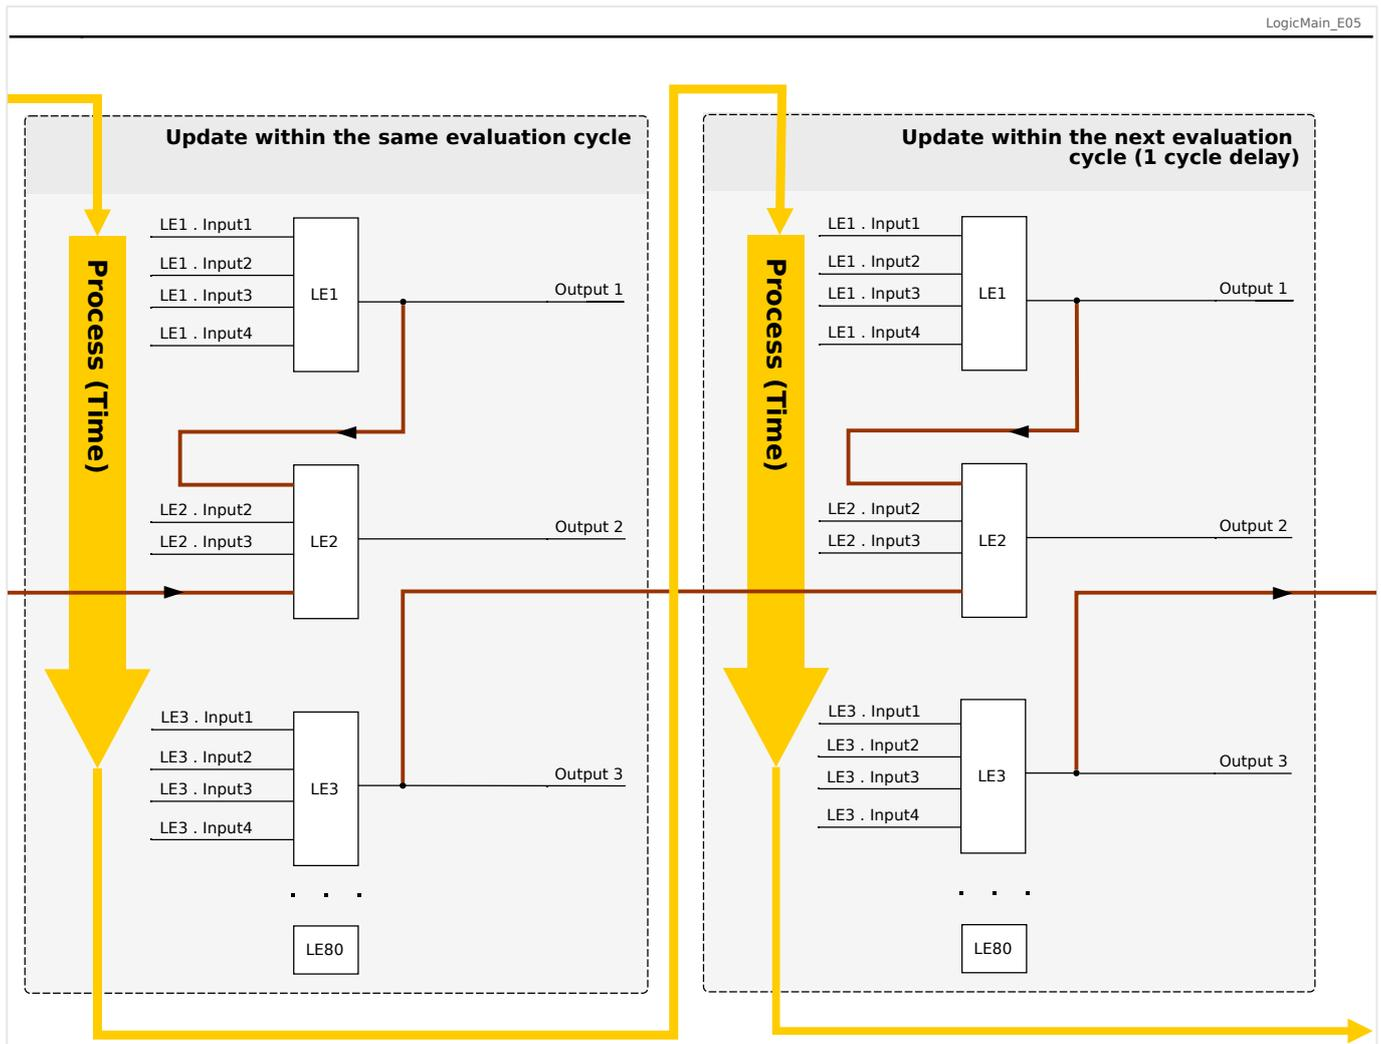

Fig. 101: Cascading in Descending Order.
- **Descending** sequence means that some output is fed into the input of a logic equation with **lower** number. For instance, diagram  Fig. 101 shows an example where the result of Logic Equation LE3 is used as an input of Logic Equation LE2.
Both ascending and descending sequences may be used and combined one with the other, with no immediate difference. However, due to the evaluation of all equations in ascending order the actual run-time values that are fed in at the input of an equation will have a different “age”, as is shown in  Fig. 100 and  Fig. 101 below.
In the example shown in Fig. 101 above, “Logic Equation 2” uses the output states of two other equations, “Logic Equation 1” and “Logic Equation 3”. The result of “Logic Equation 1” is used in ascending order and has therefore been evaluated within the same process cycle. The result of “Logic Equation 3” is used in descending order and has therefore been evaluated in the previous process cycle.